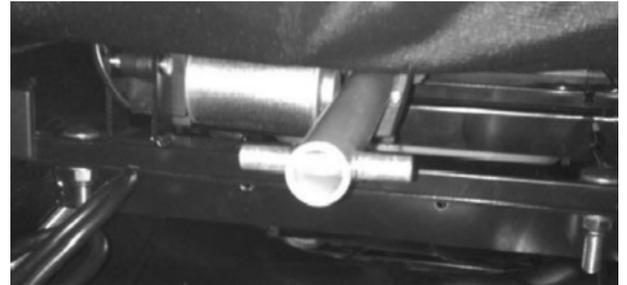

FIGURE 2 (LE or SE Version)
**Step #2)** Once the chair back is in an upright position, locate the latch at the bottom of the back. (See Figure 1) This latch connects the chair back to the seat base. Located under the seat base is an actuator with a short, steel connecting pin. (See Figure 2) In order to engage this pin and latch, this pin **MUST** remain in a perfectly horizontal position. (See Figure 2 once again) This is very important as it will be impossible to engage the latch and pin if the pin is not in a horizontal position. Gently move the chair back until the pin engages into the latch. Since the latch utilizes a spring, you will hear a click when they are properly connected.